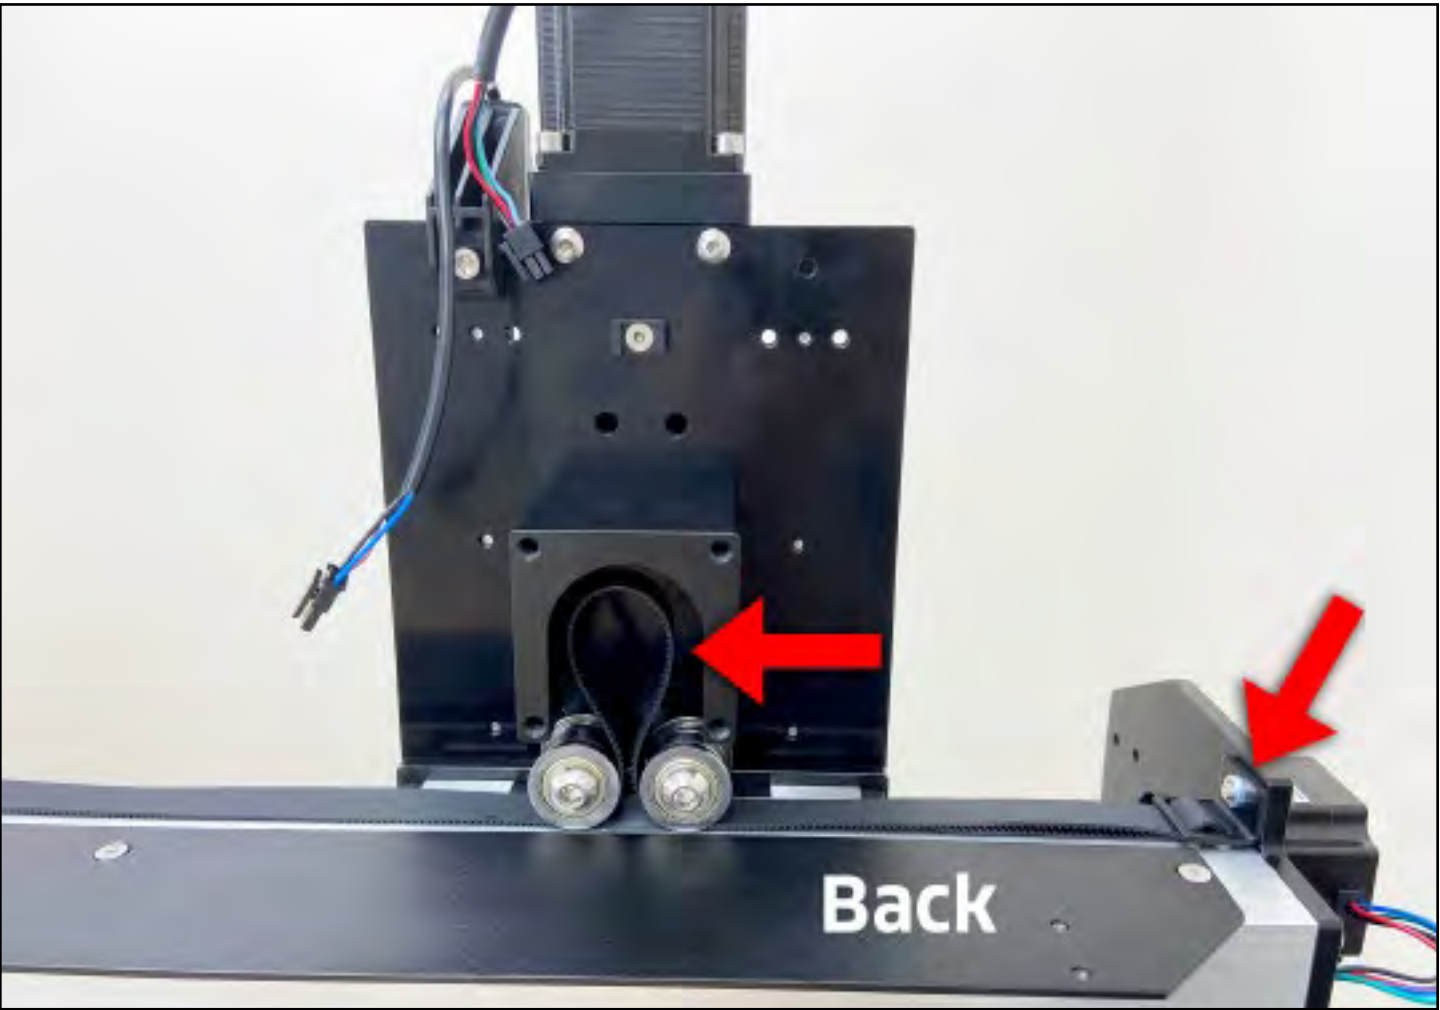

Figure 5-4
- 1. Attach one end of the belt to one end of the X-Axis gantry, threading about 3 inches of belt through the belt clip. (Refer back to Steps 4.3 and 4.4.) **See Fig. 5-4.**
- 3. Use a small hex key to pull a large loop of belt up between the two idlers and into the motor housing. **See Fig. 5-4.**